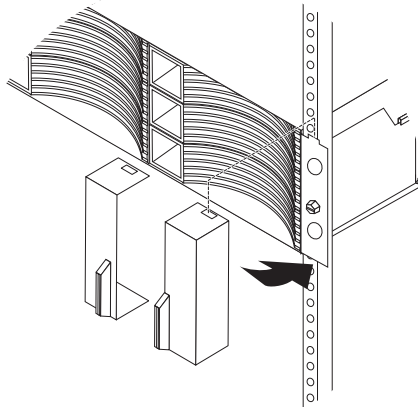

Figure 13. Installing the bezels
6. Install the left and right bezels on the storage subsystem or expansion enclosure as shown in Figure 13. Fit the slot on the top of the bezel over the tab on the chassis flange and rotate the bezel down until it snaps into place. Make sure that the inside surface of the bezel is flush with the chassis.